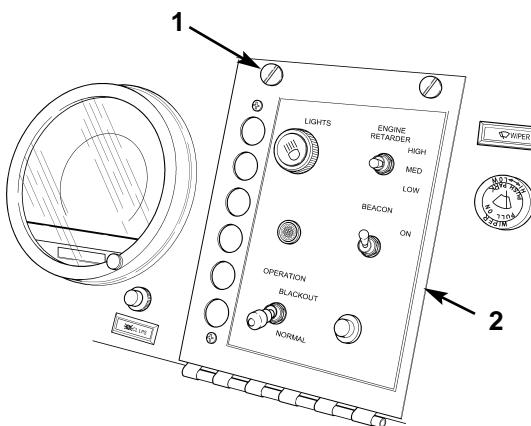

Figure 12. Closing Center Control Panel.
11. Close center control panel (figure 12, item 2), and turn two turnlock fasteners (figure 12, item 1) 90 degrees.